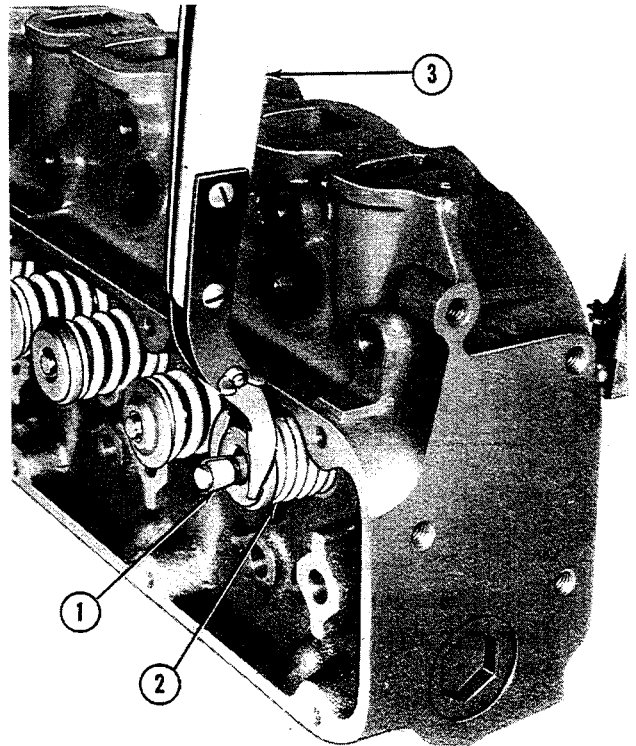

Figure 11
2. Position the valve spring compressor over the valve and spring, as shown in Figure 11, and compress the spring.
Intake Valves: Remove the retainer locks, spring retainer, spring, and valve stem seal. The parts are shown in Figure 11.